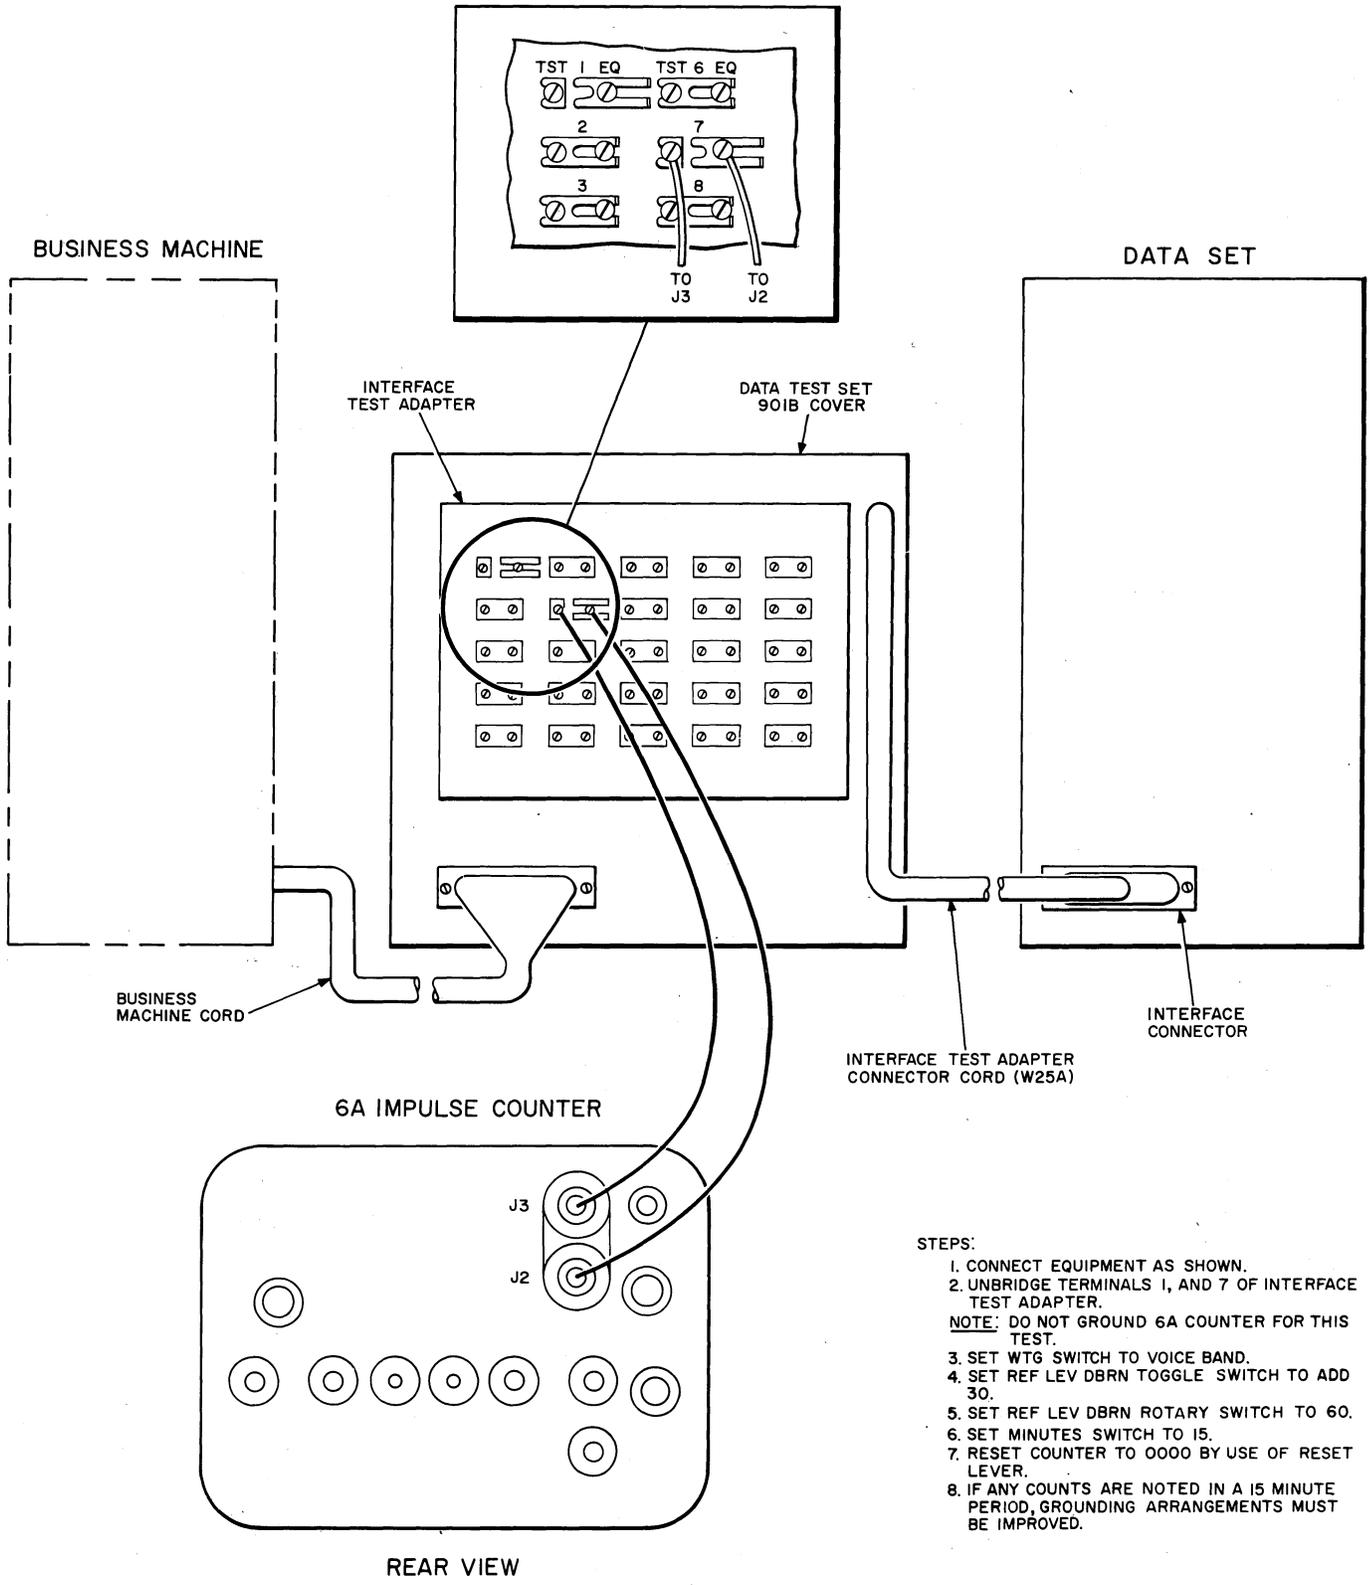

Fig. 1—Power Ground Noise Test Using 6A Impulse Counter Test
2.01 Make the noise test between grounds as shown in Fig. 1.